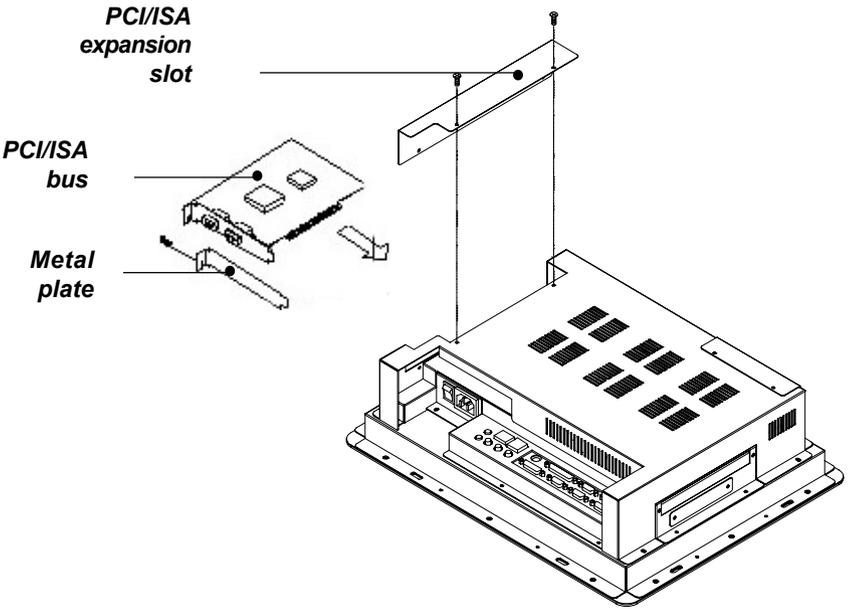

Figure 3-5: PCI/ISA bus expansion
4. Insert the PCI or ISA bus card into the PCI/ISA slot of the riser card. (See Fig. 3-5 overleaf.)